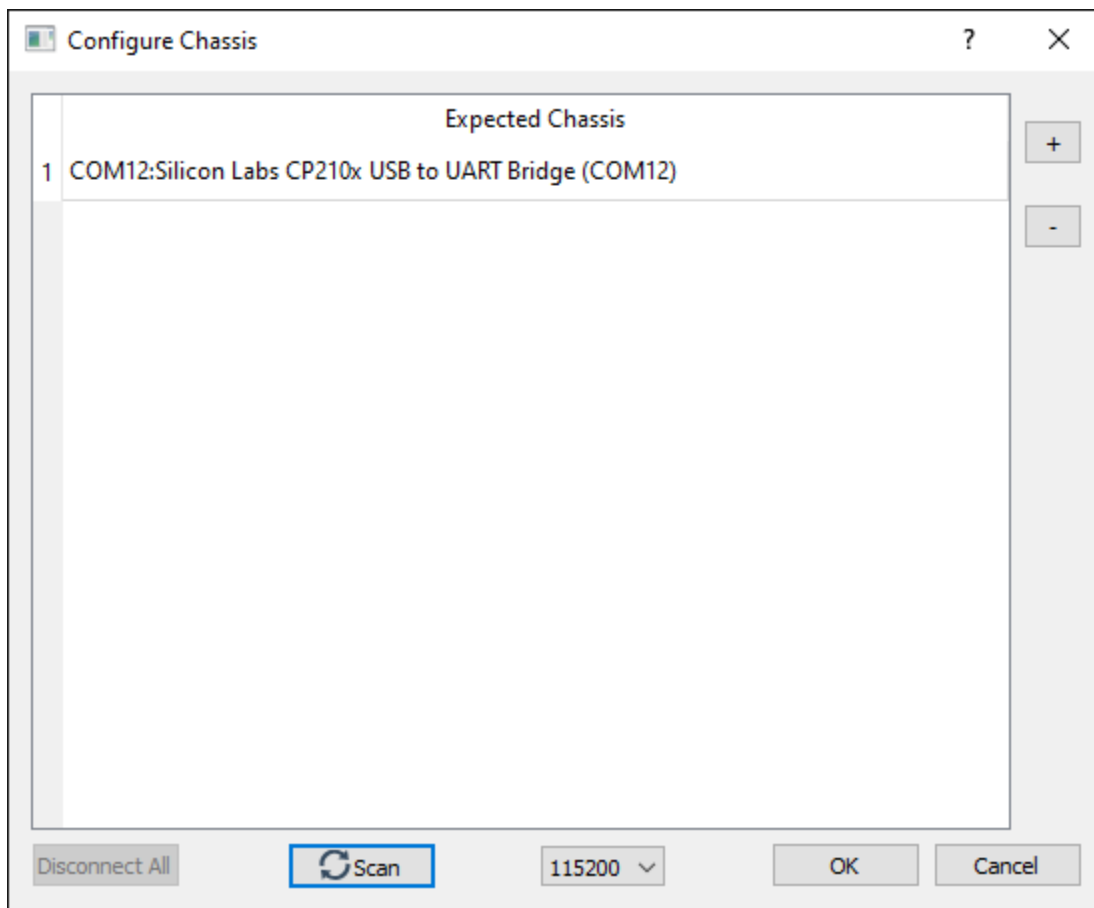

Figure 1 - Configure Chassis
5. Once the recorder is open go to Settings -> Configure Chassis. A pop up (figure 1) will appear: